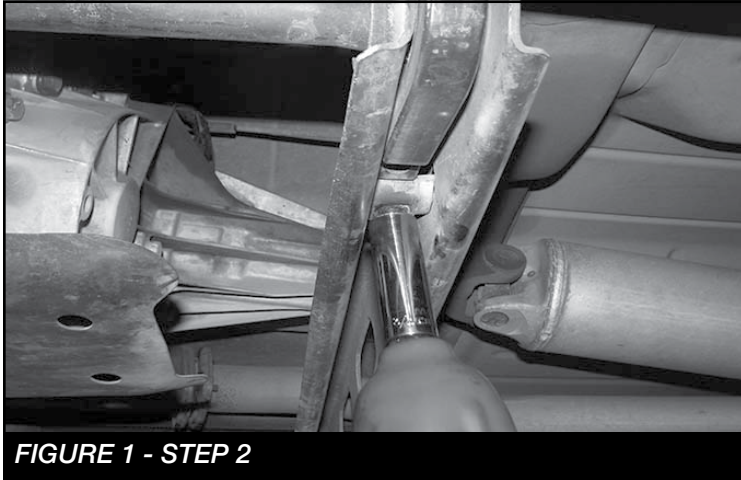

FIGURE 1 - STEP 2
2. Locate and remove the torsion bar adjusting bolts. **SEE FIGURE 1**